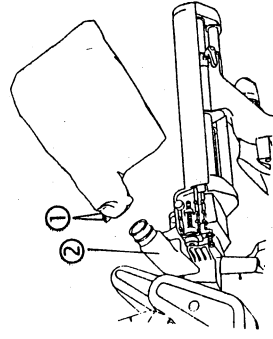

Fig. 2
1. Squeeze the metal collar wings ① of the dust bag and put it on the motor area exhaust port ②. (Fig. 2)